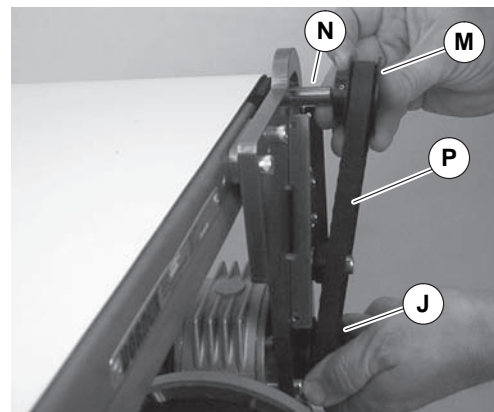

Figure 14
- Install key (Figure 14, item N).